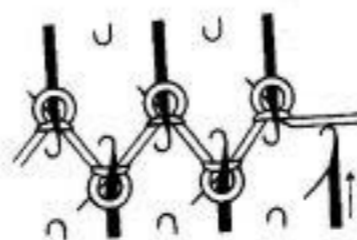

Fig. 78
- Transfer the first stitch onto the second needle. (Fig. 78)
- Return the empty end needle to rest position. (Fig. 78)